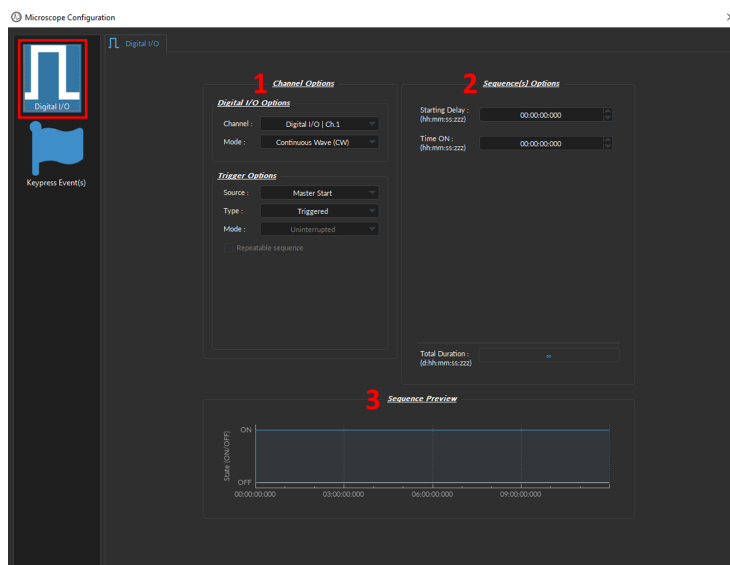

Figure 7.17: Channel(s) configuration window, Digital I/O
The *Channel(s) Configuration* window for the **Digital I/O** Channel is divided into three sections (Fig. 7.17): (1) the **Channel Options** (Section 7.4.1.1), (2) the **Sequence Options** & (3) **Preview** (both treated in Section 7.4.1.2).